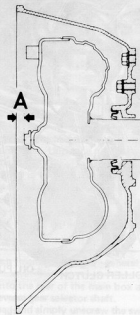

Fig. 6.14. Correct installation of the torque converter in the bellhousing (dimension 'A' is 0.20 to 0.28 inches/0.50 to 0.71 mm). (Sec. 14)
- 20 Raise the transmission assembly into position behind the engine. Rotate the torque converter (if original one still being used) so that the marks made prior to disassembly are aligned. Remove any converter support that has been employed during handling of the transmission (Fig. 6.14).
3 The two units are joined quite simply by sliding the converter over the gearbox shaft. To ensure the converter has been correctly refitted, ie, the converter hub is meshing with the oil pump gear wheel in the transmission, measure the distance between the converter housing flange and centre spigot as shown in Fig. 6.14. If the measurement taken is not within the specification stated, it is possible that the converter hub is not meshing correctly. Rotate the converter until the gears can be felt to mesh and recheck the clearance.